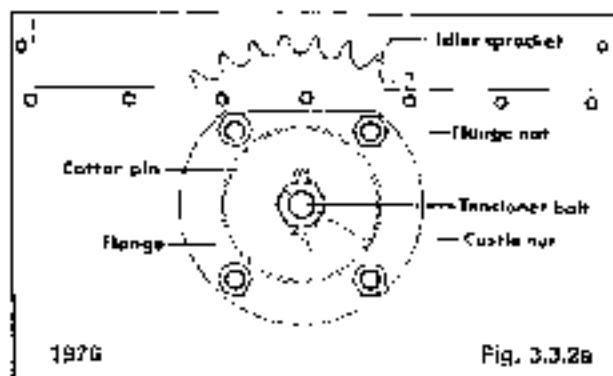

Fig. 3.3.2a
7. Remove the cotter pin, castle nut and tensioner bolt (fig. 3.3.2a).
8. Remove the front and rear flanges from the housing (fig. 3.3.2a).